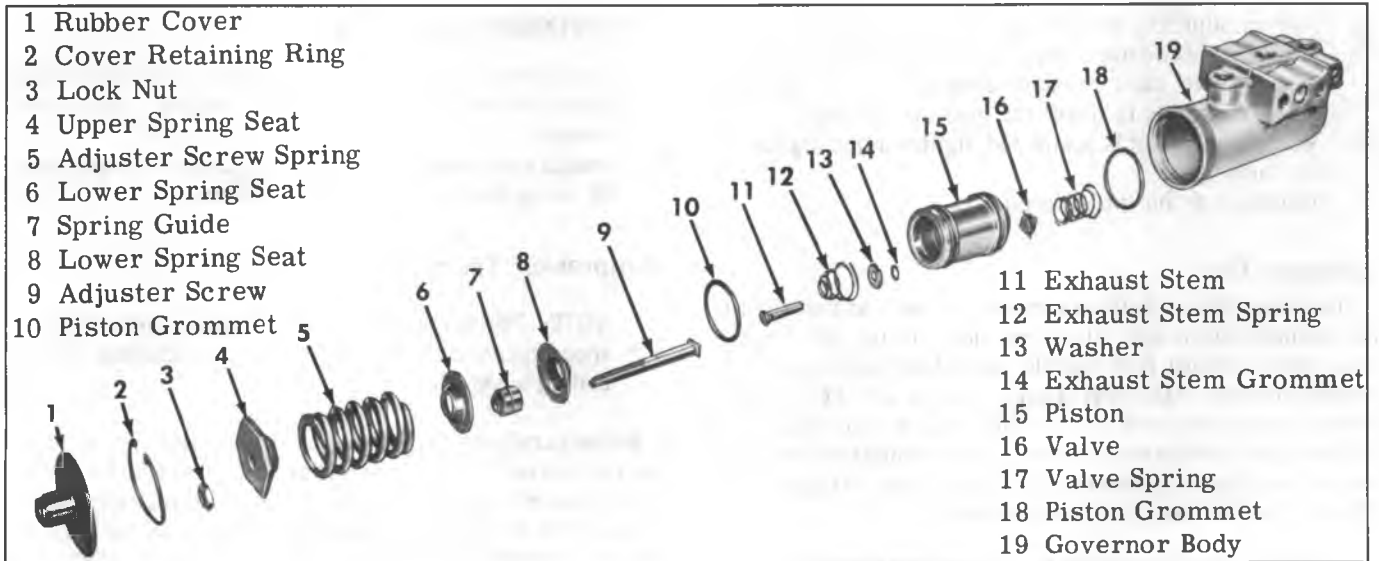

Fig. 26G--Type D-2 Governor Components
### Disassembly (Refer to Fig 26G)
**Assembly (Refer to Fig. 26G)**